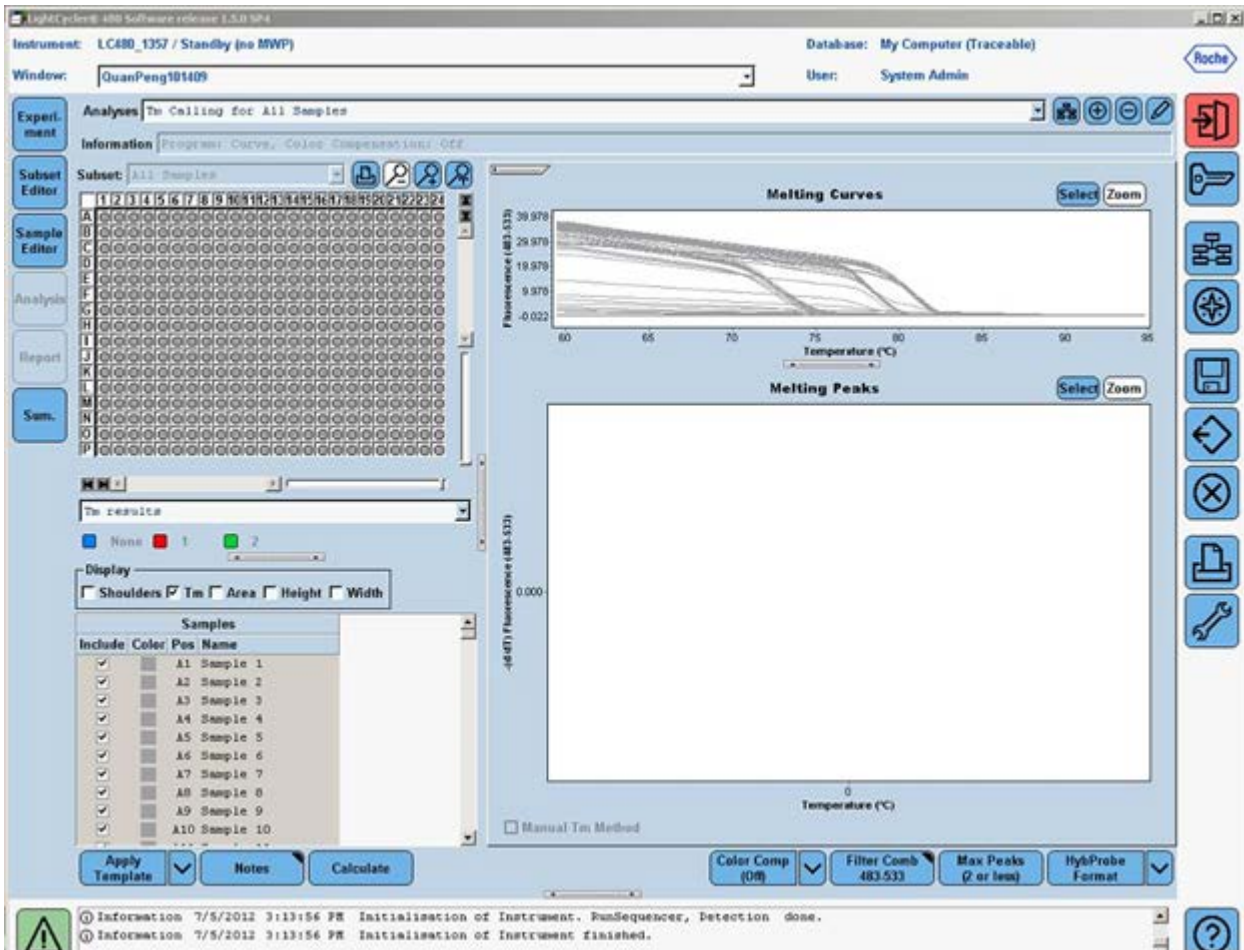

Figure 12. Generating melt-curve analysis.
7. The Analysis window with the raw melt curves will appear (Figure 12). To proceed, click the down arrow button (▼) on the lower right corner of the screen to set the analysis to "SYBR Green I Format". Next click the "Calculate" button. The calculation may take several minutes. Once the melting peaks and T_m values appear, check the specificity of each assay by ensuring the presence of a single melt peak in each well. Then click the (📄) button on the right panel to save the melt curve analysis as part of the run file.